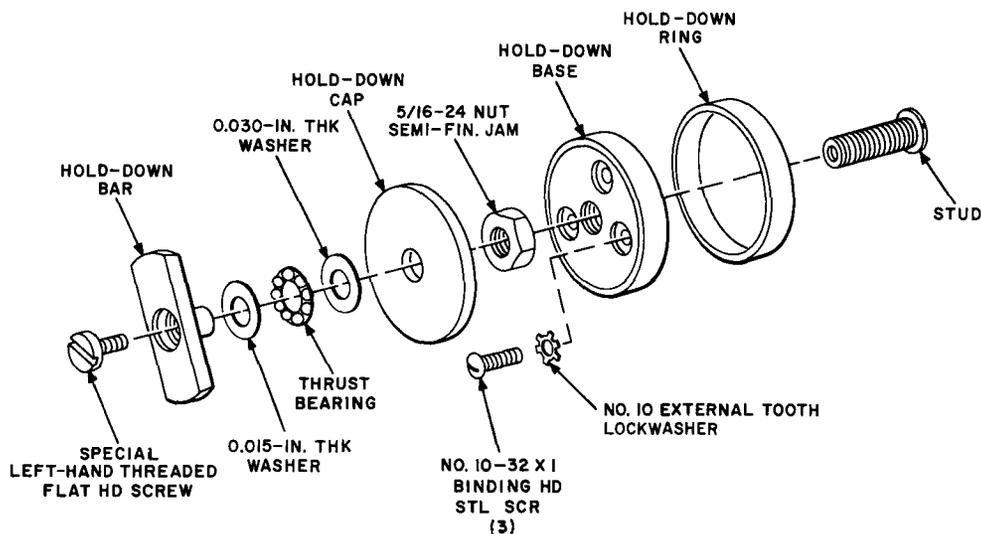

Fig. 11 — KS-19125, L 101 Reel Hold-Down Knob — Exploded View
- (1) While holding hold-down bar (Fig. 11), use the 5-inch E screwdriver to remove special left-hand threaded screw (turn screw clockwise). Take care not to mar the slotted area of the screw.
- (2) Unscrew hold-down bar by turning it counterclockwise and remove bar from stud.
- (3) Remove thrust bearing, two washers, and hold-down cap from stud.
- (4) Using the 4-inch E screwdriver, remove three screws and lockwashers securing hold-down base to reel turntable and remove hold-down base, ring, and stud.